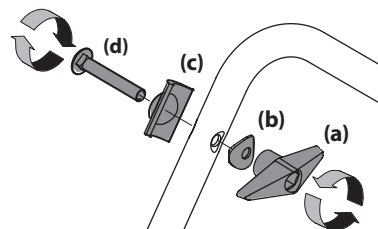

Figure 2-7
- Remove the wing knob (a), saddle washer (b), handle tab (c) and carriage screw (d) on each side of the lower handle. See Figure 2-7.